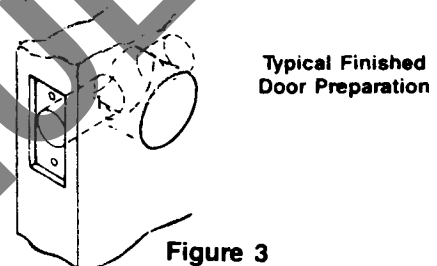

Figure 3
- Drill pilot holes for two attaching screws, then mortise door edge 5/32" deep for front trim. (See Figure 3.)